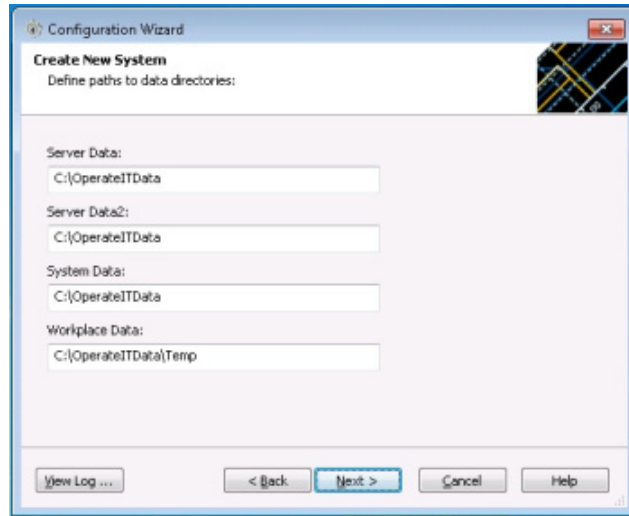

Figure 5. Define Data Directories
4. In the next dialog box you specify data directories, see Figure 5.